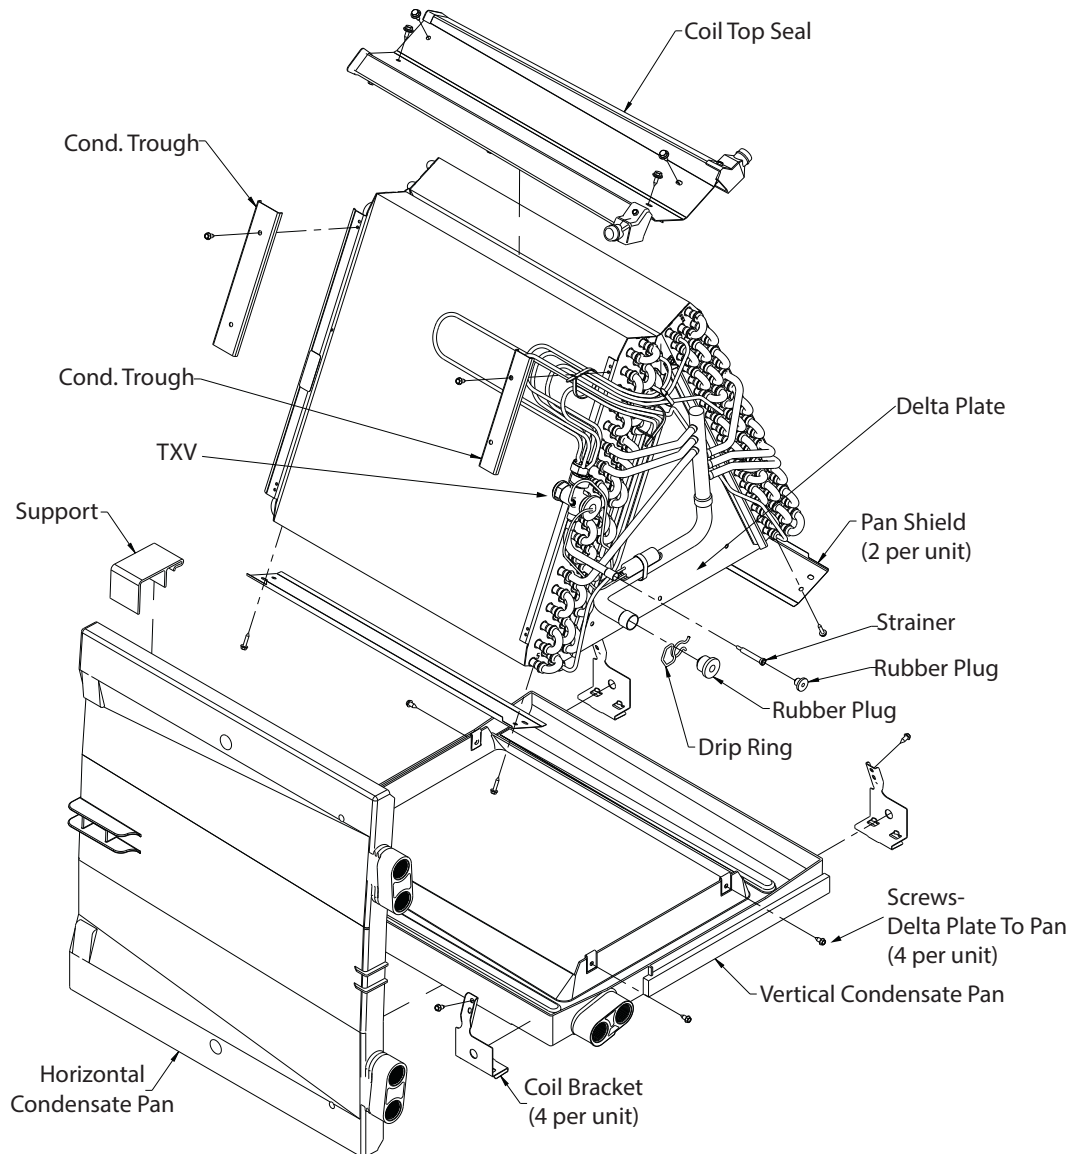

Fig. 29 – A-Coil Component Location
8. Remove horizontal condensate drain pan from coil (if present) and condensate pan assembly. (See Fig. 29.)
9. Remove 4 coil brackets if present. (See Fig. 29.)
10. Remove screws at delta plates and remove coil from vertical condensate drain pan. (See Fig. 29.)
11. **Horizontal Applications Only**—Remove drain connections and J-shaped tube from original coil, and install them in same position on new coil. (See Fig. 29.)
12. Place coil assembly in plastic condensate pan and secure with 4 screws through delta plate. (See Fig. 29.)
13. **Horizontal and Upflow Applications Only**—Attach 4 coil brackets to coil and pan assembly. (See Fig. 29.)
17. **Horizontal Applications Only**—Reinstall horizontal pan clip and secure with 1 screw. (See Fig. 29.)